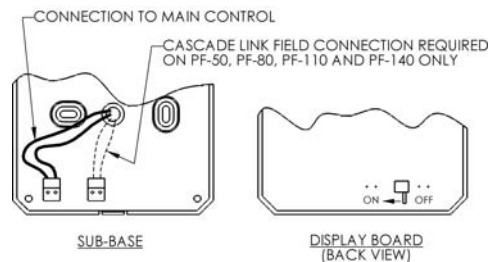

Figure 8.6: Cascade Link Connection & Switch Setting
1. To cascade PF-50 and PF-80 models, check that the display sub base has the cascade link as illustrated in Figure 8.6 Cascade Link connection & Switch Setting.
- Remove the User Interface Display from the boiler by pressing the tab on bottom edge and rotating it outward and upward as shown in Figure 8.6.
- Slide the Master Switch Lever toward the center of the printed circuit board. The Master Switch Lever is not marked with “ON” or “OFF” but the switch is in the “ON” position when it is moved to the left as viewed from the back of the display. This position is shown in Figure 8.6.
To cascade PF-50 and PF-80 models, check that the display sub-base has the cascade link as illustrated in Figure 8.6.